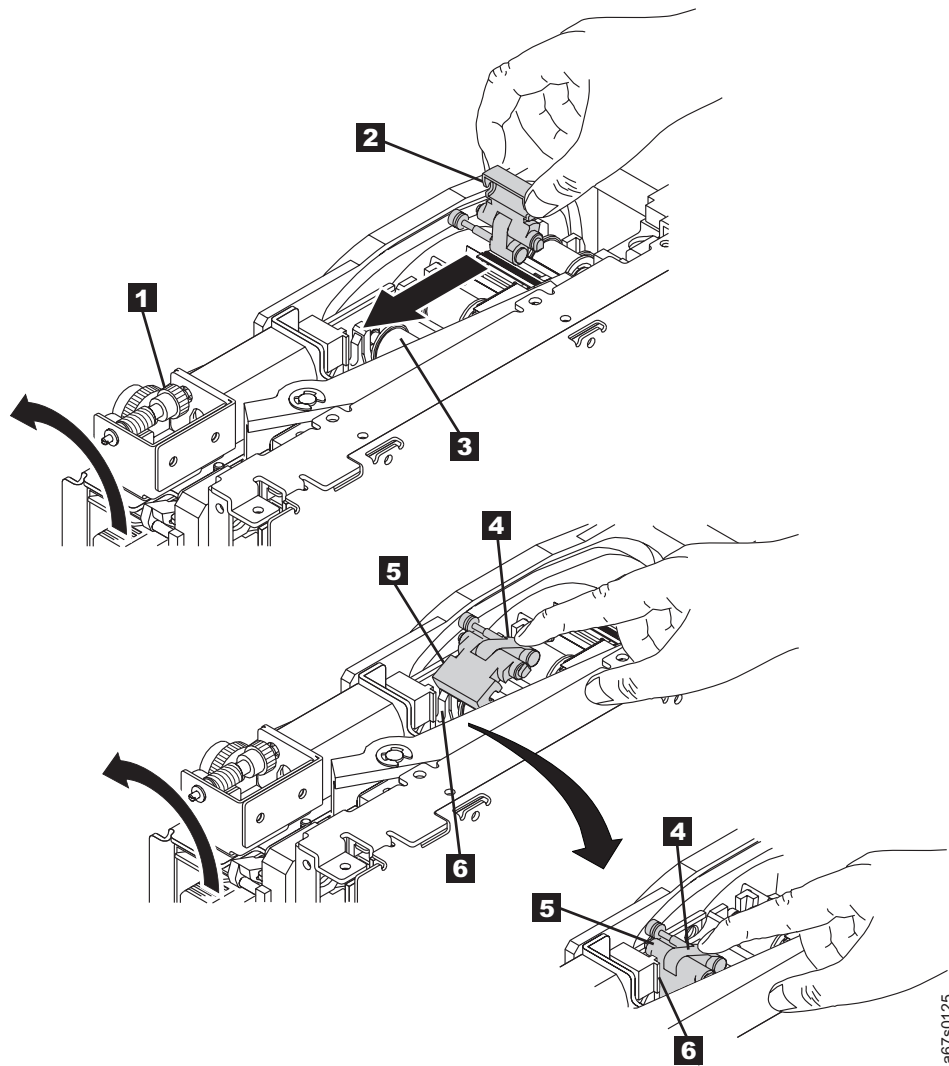

Figure 10. Guiding the leader pin into the tape cartridge
1. Manually rotate the loader motor gear (see **1** in Figure 10 on page 13) in the unload direction until the leader pin block **2** reaches the last roller **3**.